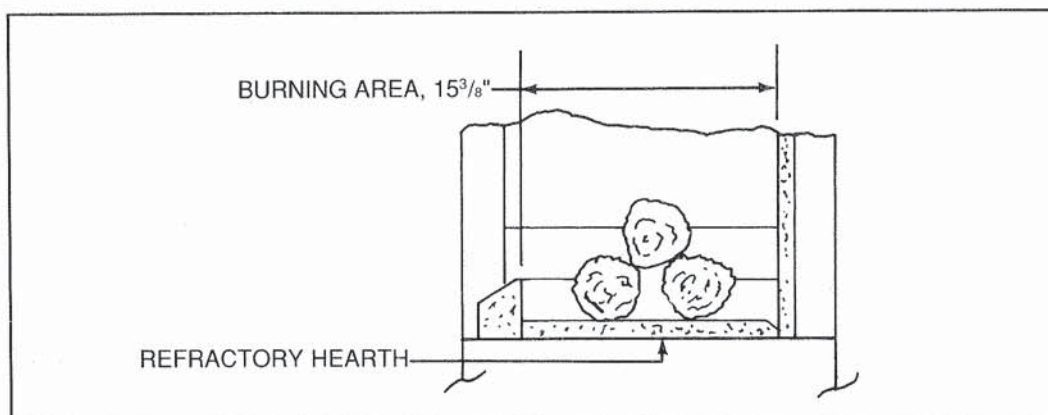

Figure 21
- G. **SETTING THE FIRE.** Check the flue damper to be sure it is fully open. Place crumpled or twisted paper on to the hearth floor. Loosely arrange kindling or small pieces of wood to form a layer above the paper. Place three logs in a rough pyramid as shown in Figure 21, being sure to allow free air space between the logs. Small sticks of wood may be used to separate the logs. **NOTE:** When heated the first time, the temperature of the fireplace must be raised gradually, to prevent moisture within the refractory from causing cracks, and to allow the binders in the insulation to dissipate.